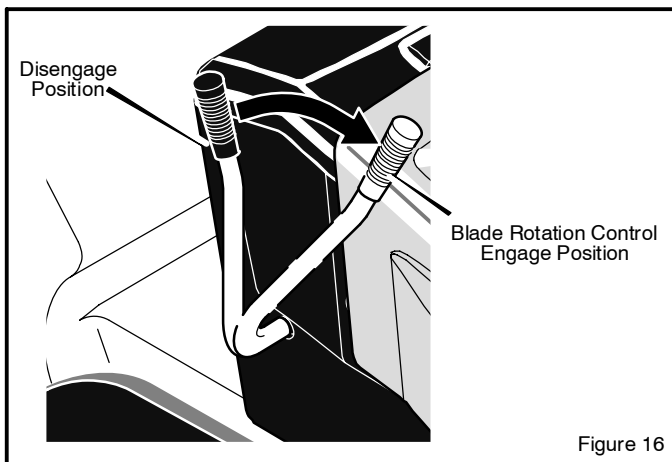

Figure 16
2. Move the **blade rotation control** to the **DISENGAGE position** (Figure 16).